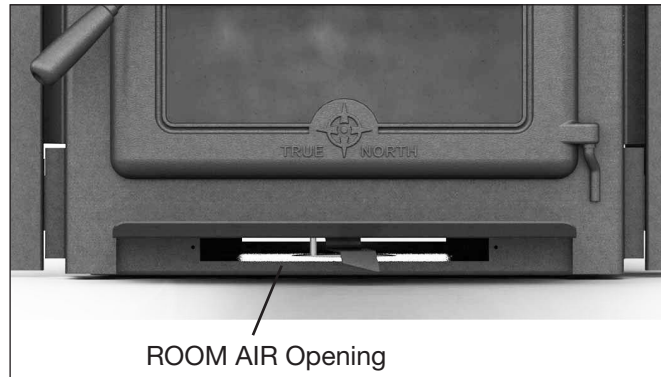
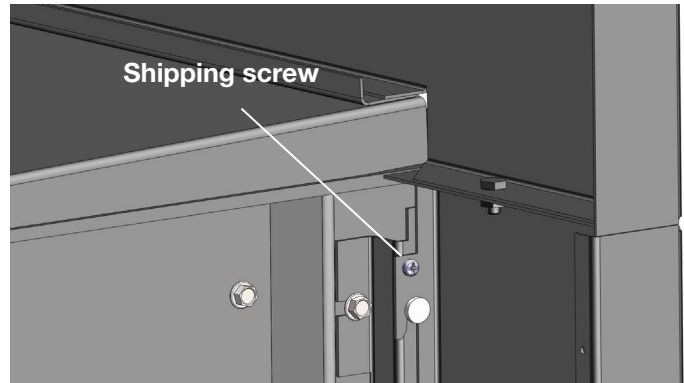

Figure10:room air opening.
Figure 12: TN20.INSA Shipping screw
1. Remove the shipping screws located at the top of each surround side panel (*fig. 10*). remove the two screws holding the Fan Controls on the side panel and remove the controls (*fig.12*). Lift to remove both panels from the unit.